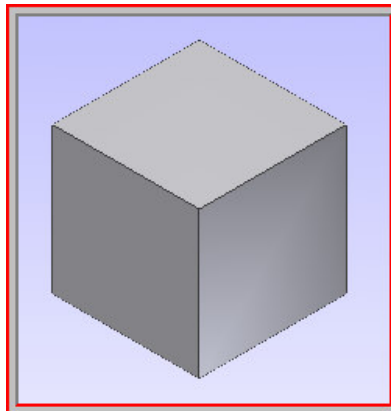

Figure 06 – BLOCK
Step 07: Now press Isometric View to see the Block as shown in figure 06